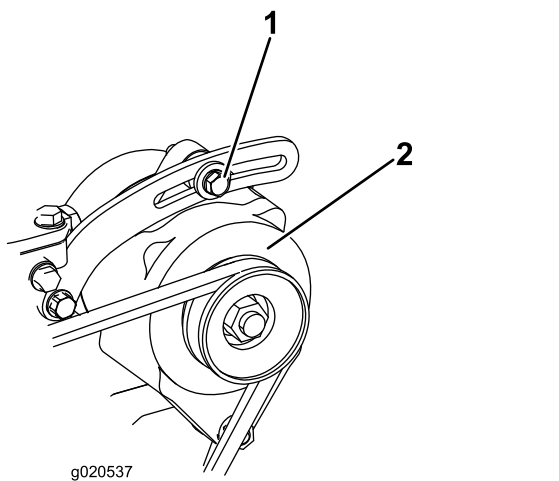

Figure 96
1. If the deflection is not 10 mm (3/8 inch), loosen the alternator mounting bolts (Figure 96).